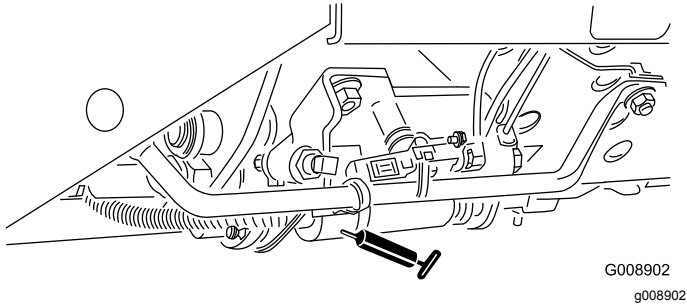

**Figure 56**
- Neutral adjust mechanism (Figure 56)